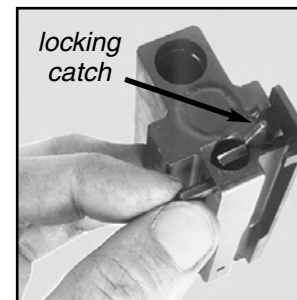

Fig. 28
- 2 • Pull out firing pin assembly retaining pin to the left (Fig. 28).